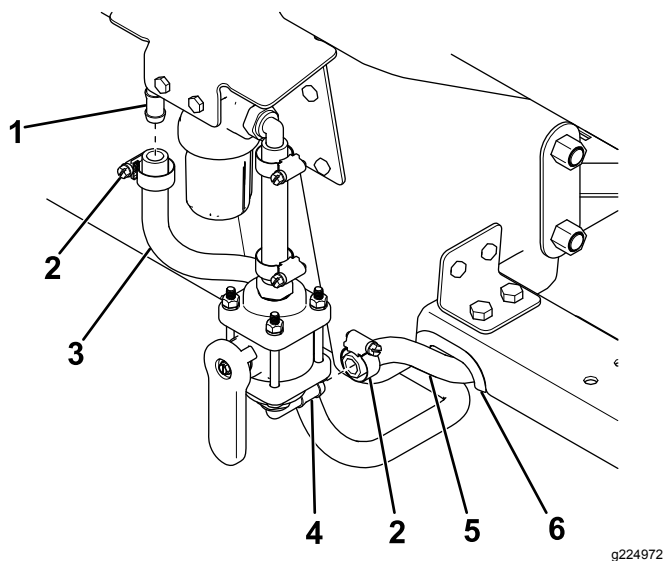

Figure 36
6. Secure the 1.2 m (48 inch) hose from the pump to the 90° filter hose fitting with a hose clamp (Figure 36).
- Secure the free end of the tank hose to the 90° ball valve hose fitting with a hose clamp (Figure 36).
- Slide 1 of the edge covers onto the frame rail as shown in Figure 36.